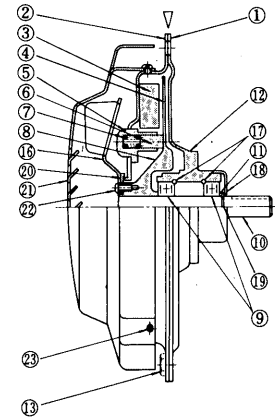

Fig. 3 Totally-enclosed, Fan-cooled Type UGPMFE-□ B
Type (UG) PMFE-12 □ B (Fig. 3)
Type UGPMFE-16 □ B (Fig. 3)
1. Remove the fan cover mounting screws ㉓ in Fig. 3.